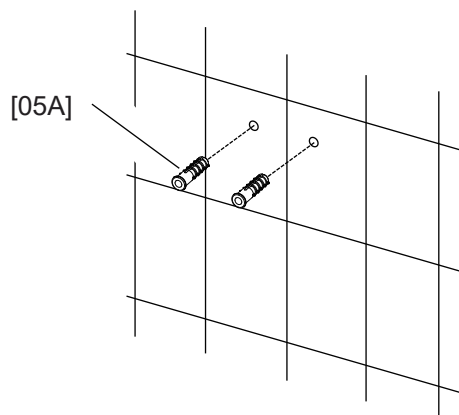

Fig 2.2
**2-2** Install the **Anchors [05A]** . (Fig 2.2)